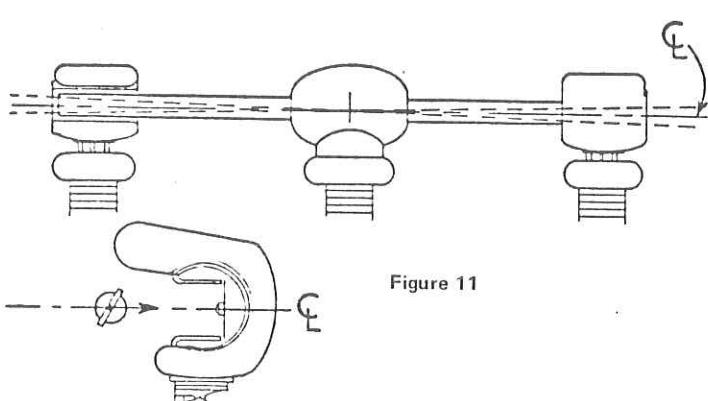

Figure 11
1. The blade must enter each jaw on a horizontal plane. It also must enter each jaw centrally, without dragging on either the upper or lower jaw contact surface. (Figure 11) Misalignments, can be corrected by using the jack screws on the insulator that supports the jaw to raise or lower the jaw as necessary to permit central entry of the blade.